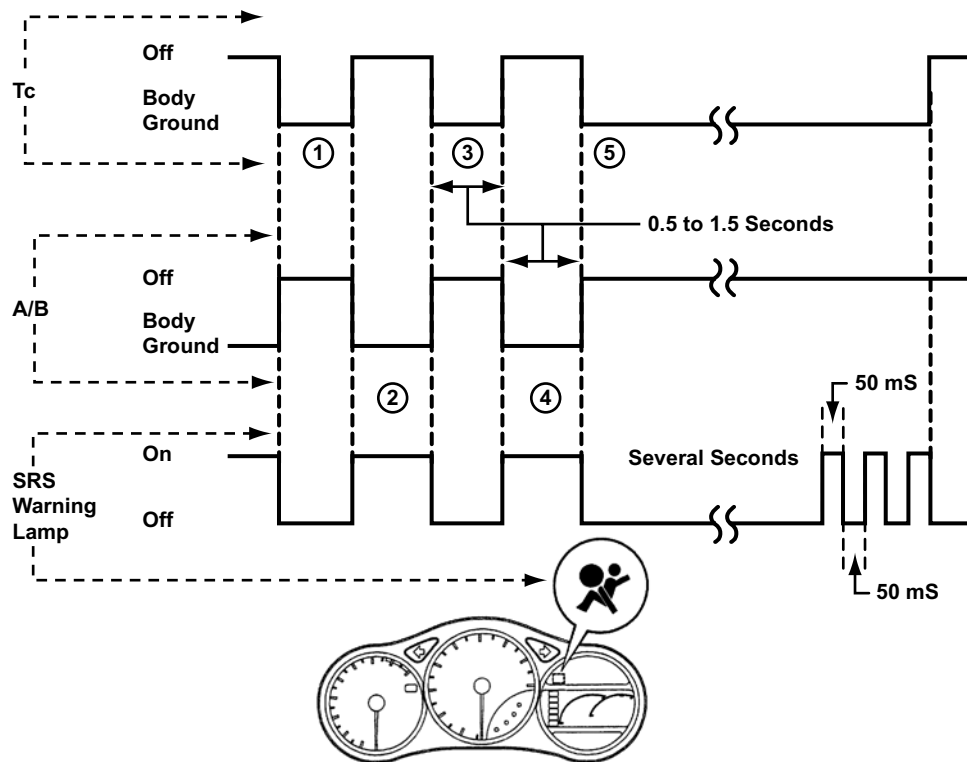

Figure 16-19 SRS (airbag) code clearing
3. Starting with the Tc terminal, alternately ground terminal Tc then terminal A/B twice each in cycles of 1.0 second (Figure 16-19). Ensure that terminal Tc remains grounded.
Several seconds after the clearing procedure is complete (Step 3), the SRS warning lamp blinks in a 50 ms/second cycle to indicate codes have been cleared (Figure 16-19)